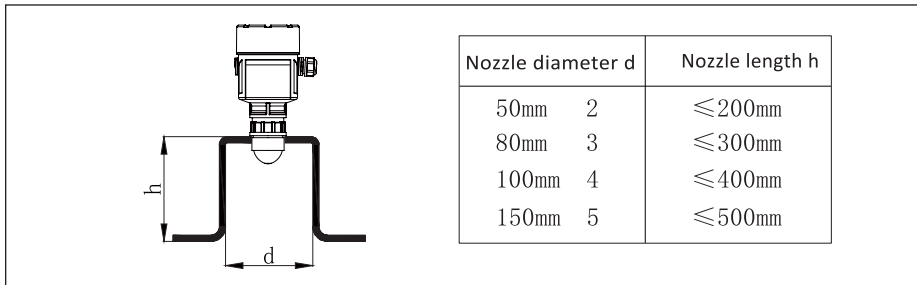

figure 8
► If the length of the vessel connecting pipe is long, please refer to Figure 8. The longest installed connecting pipe shall be as small as possible as the size shown in Figure 8, and the end must be ground smooth without burrs and other protrusions. If necessary, use the "false echo storage" function to eliminate the reflected signal at the end of the container nozzle, which can also achieve better measurement results.